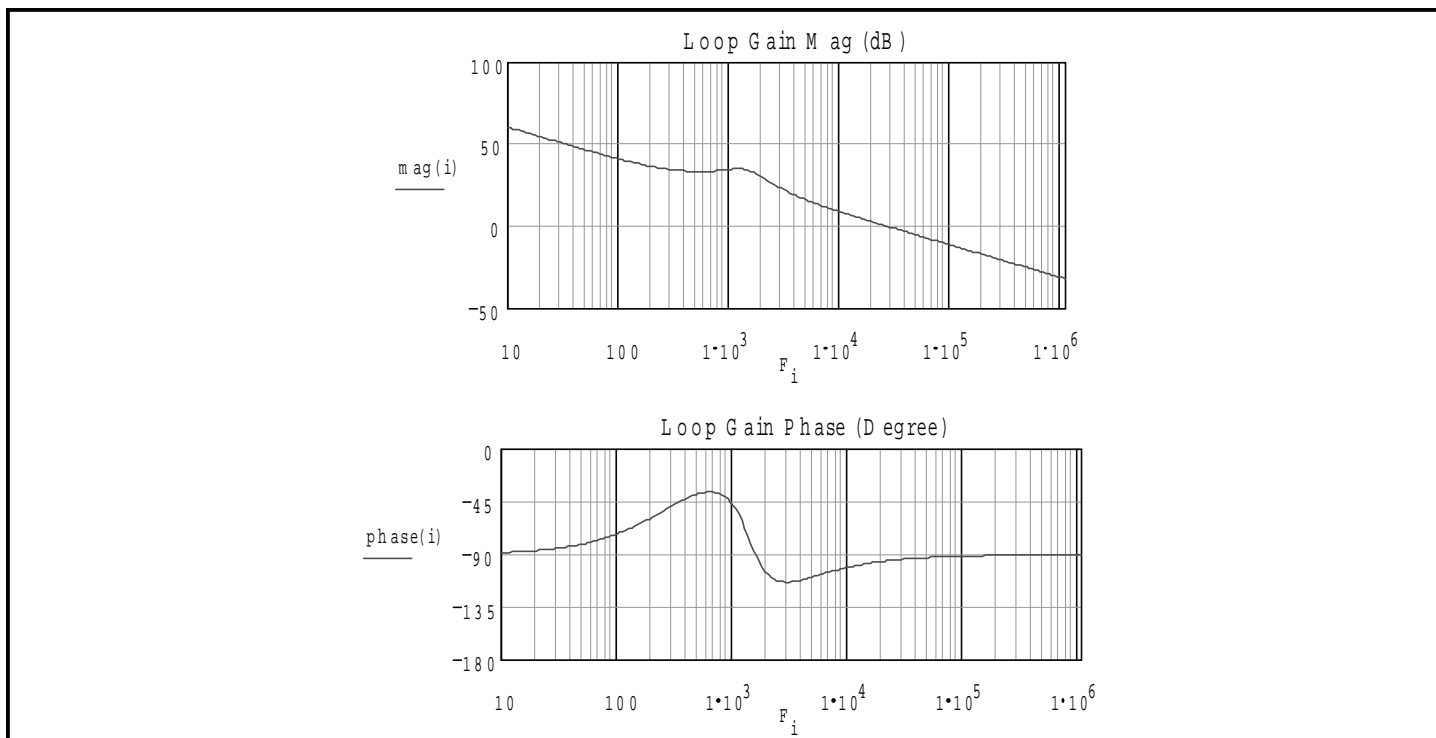

Fig. 2. Bode plot of the loop
Step 6. Generate Bode plot and check the phase margin. In this case, the phase margin is about 85°C that ensures the loop stability. Fig. 2 shows the Bode plot of the loop.